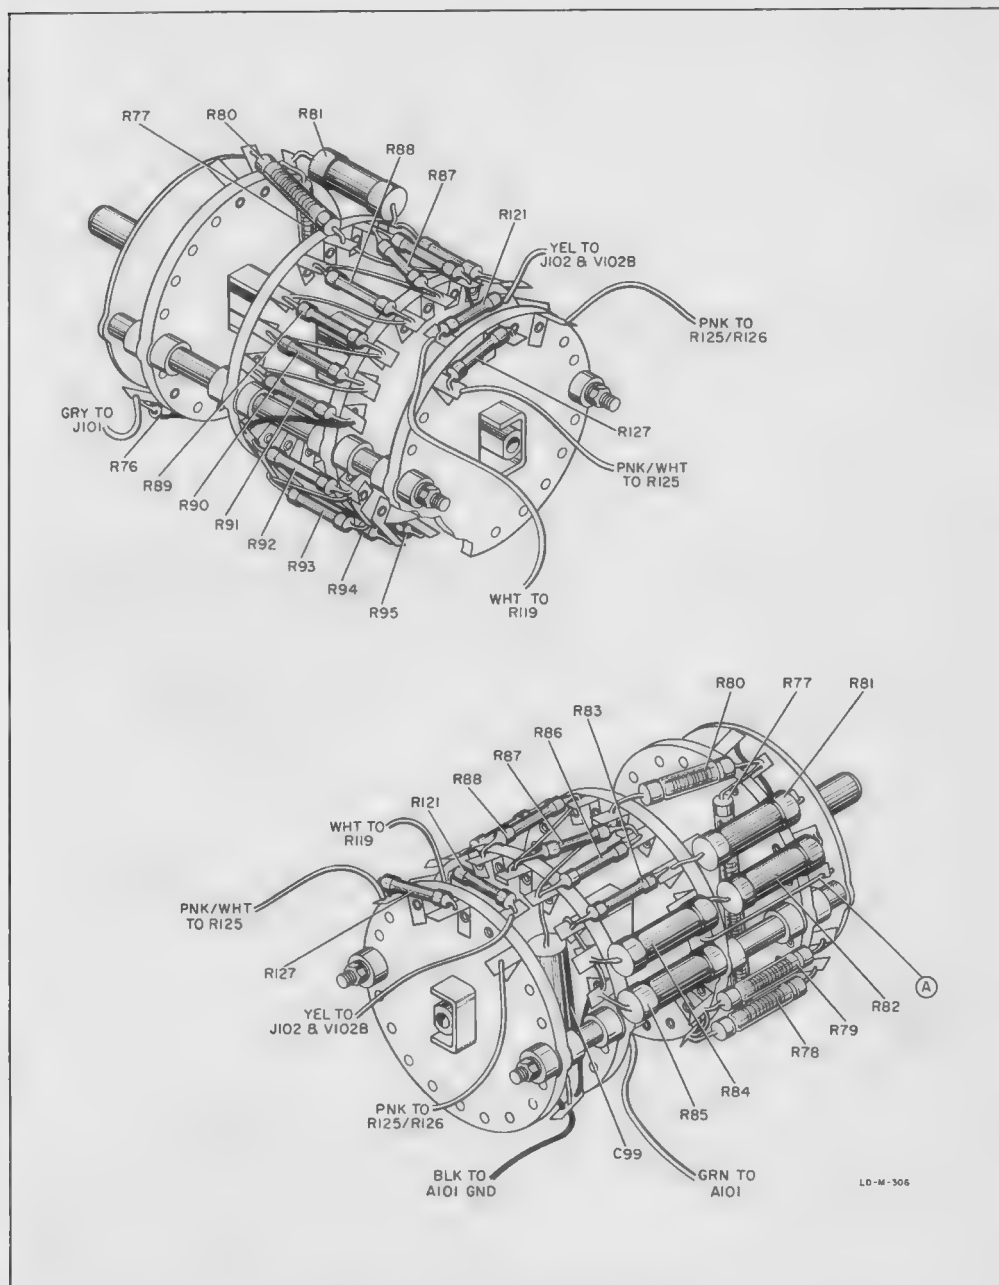

Figure 5-5. S101 Range (Volts) Switch Detail
f. Connect one lead of an 8.2-megohm resistor to oscilloscope signal connector (or probe). Using a jumper wire, connect the other resistor lead to the junction of R85 and S101D (point A in figure 5-5). Connect oscilloscope common lead to 413A common connector.
5-26. Figure 5-5 shows the location of all parts and wire destinations for the replacement of the RANGE (VOLTS) switch. The Model 413A should be checked for correct calibration after replacing this switch.